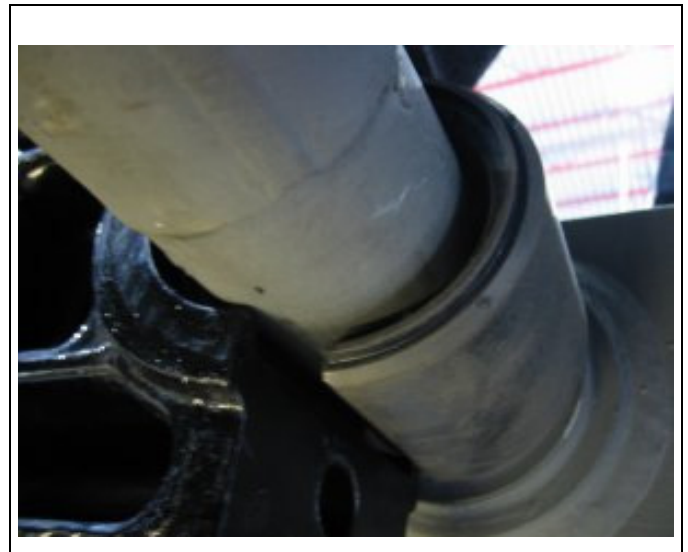

Figure 15-12
2. Install the new bushings on the swaybar assembly. Orient the bushings with the split facing down. See Figure 15-12.